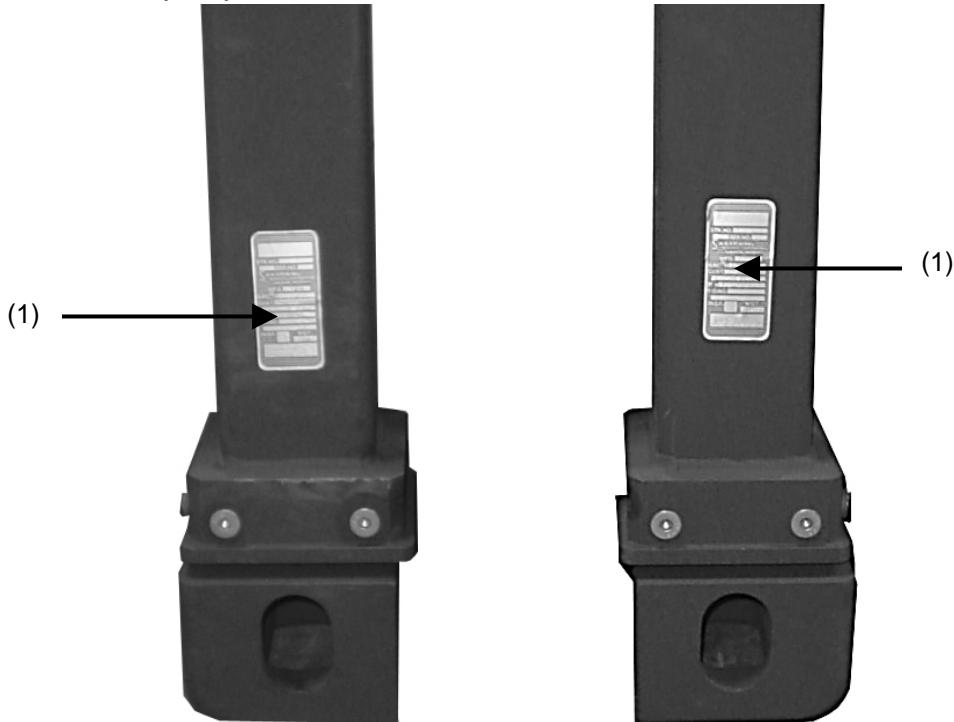

Figure 4-64. LH and RH lift jack assemblies.
1. Ensure you have the correct jack (LH, RH) by checking part number on identification plate (1) (Fig. 4-64). RH jack is PN 58300209. LH jack is PN 58300208.